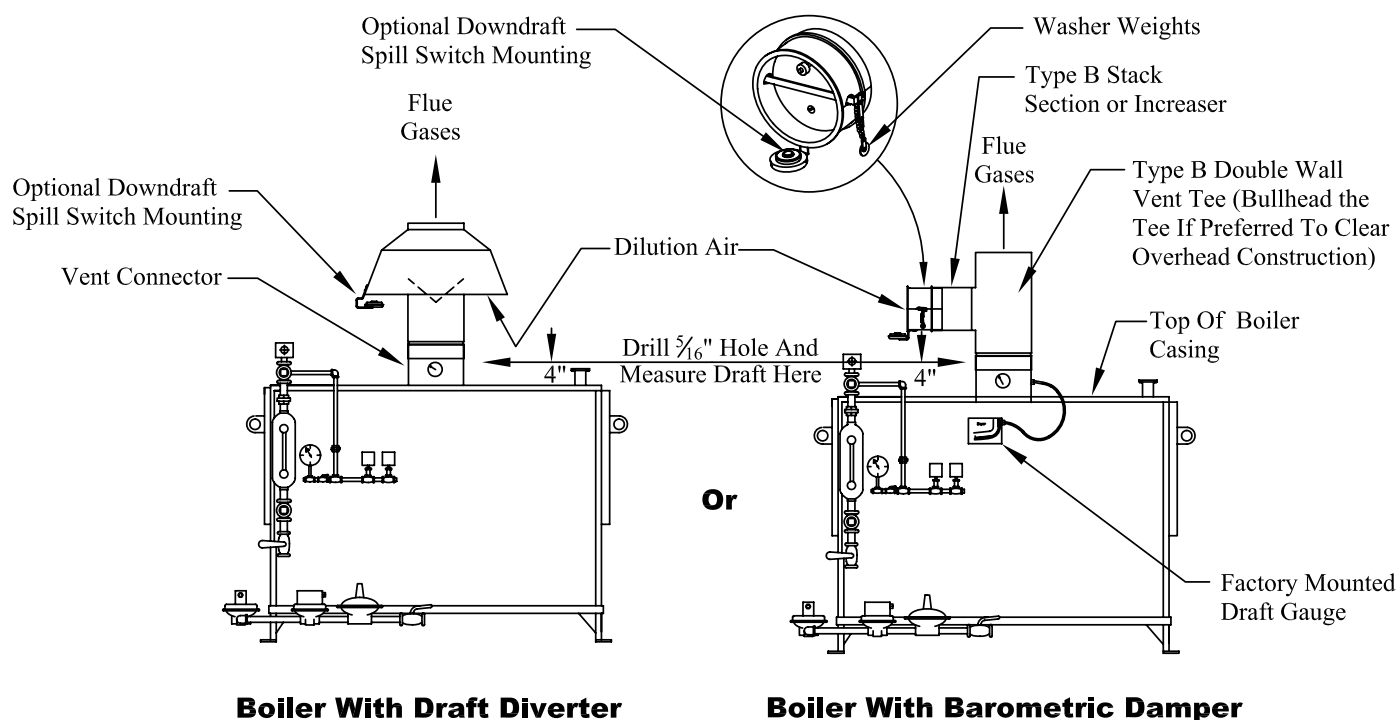

Figure 4
4. Factory mounted draft gauges are standard on all boilers supplied with a Barometric Damper. The draft can be set up and monitored using this gauge. An optional flue gas thermometer for checking boiler efficiency may also be provided. See **Figure 4** below for draft control and draft measurement locations.